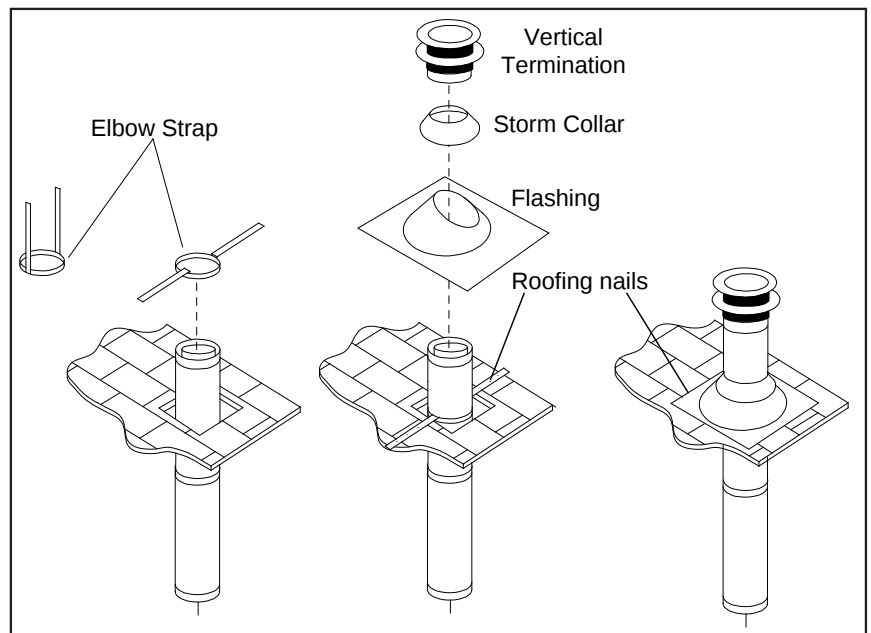

Figure 55: Vertical Vent Termination
- STEP 6.** Once the pipe sections have been joined, and run up through the hole in the roof, slip an elbow strap over the exposed sections, bend the support straps outwards, and push the elbow strap down to the roof level, as shown in Figure 55. Tighten the clamp around the pipe section. Use a level to make sure the pipe is truly vertical. With roofing nails, secure the support straps to the roof. Seal the nails holes heads with non-hardening mastic. Trim the excess length of the support straps that extend out beyond the edge of the flashing.
- STEP 9.** Slip the storm collar over the pipe, and push it down to the top of the roof flashing as shown in Figure 55. Use the non-hardening sealant around the joint between the pipe and the storm collar.